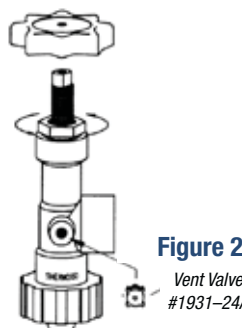

Figure 2
- With the 1" socket and an appropriate wrench, fully loosen the bonnet nut by turning it counterclockwise as shown in Fig. 2. With the bonnet threads disengaged from the body, slowly pull the bonnet and the attached plug and plunger assembly straight out of the body until the connection of the bonnet assembly and plug and plunger assembly is exposed. Disengage the bonnet assembly from the plug and plunger assembly and push the plug and plunger assembly through the valve body and remove it from the inlet side of the valve body. Discard the entire bonnet/plug and plunger assembly. Do not reuse any of the old parts except the handwheel and the screw.